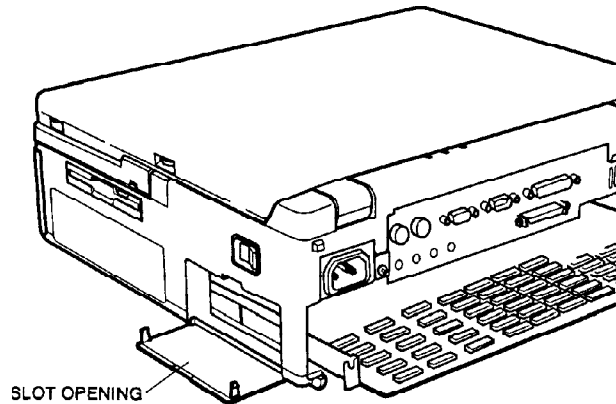

Figure 4-16 Inserting an Expansion Card
3. Carefully slide the card into the slot using the **expansion slot opening** on the left and the card guides on the right to help you align the card (Figure 4-16). If installing a Mambo card, you may need to bend the connector cables up and out of the way to clear some of the components on the board.